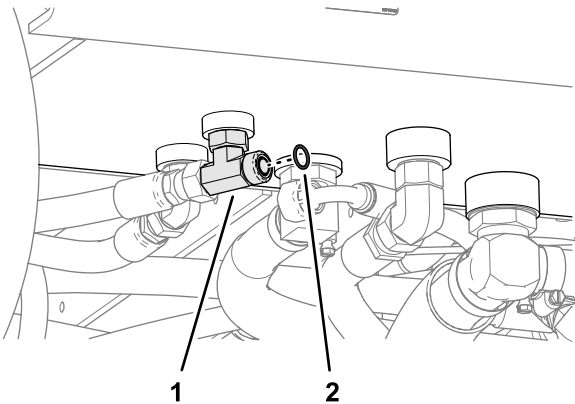

Figure 130
5. Remove the O-ring in the face of the T-fitting of the hydraulic tank (Figure 130).
6. Install a new O-ring 12.4/1.8 mm (0.489/0.070 inch) into the groove of the T-fitting (Figure 130).